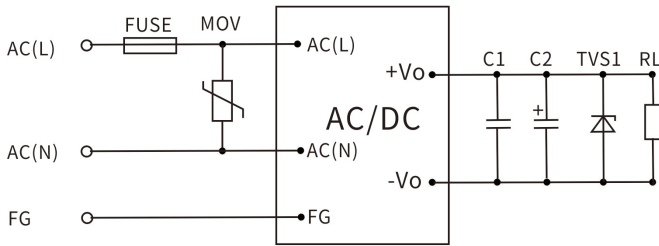

图1
- For general application requirements, customers should use the recommended circuits shown in Figures 1, 2, and 3. If EMC certification is required, please use the recommended circuit shown in Figure 4. The specific recommended values for Figure 4 are as follows: